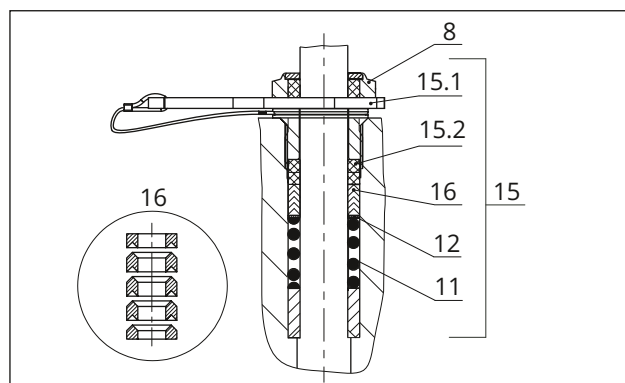

Fig. 27: ADSEAL packing
- Spring (11)
- Shim (12)
- Packing rings (16)
4. Insert the red spacer ring (15.1) between the threaded bushing (8) and retaining ring (see Fig. 27).